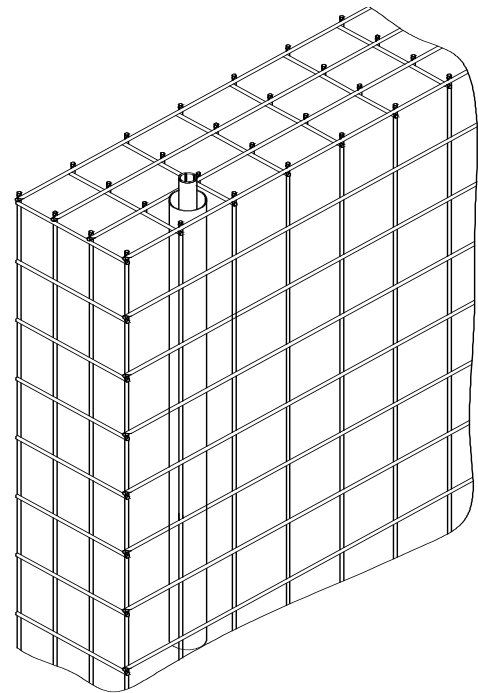

Figure 8-1 Inclinometer casing in D-wall
- a. Fix a 150 mm nominal bore diameter steel guide pipe vertically within reinforced bar cage as shown in figure 8-1. The pipe length to be installed should be worked out in such a way that its top remains around 0.5 m above the existing ground level after cage is fully lowered to bottom of the slurry trench. Bottom of guide pipe should be around 0.5 m above bottom level of cage. It should be sealed at bottom with a concrete plug/plastic cap.